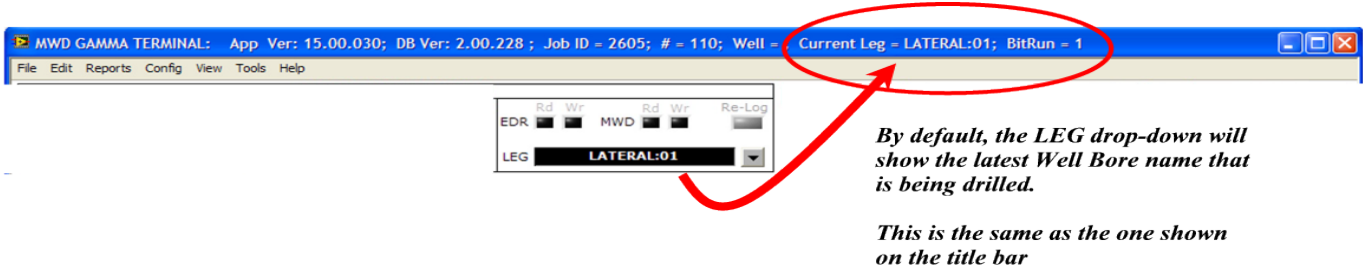

Figure 85. Shows the Leg Name Selection box, which by default always shows the active well bore that is being drilled.
- **The Current or Active Well bore Name:** The active well bore name is also the same one that shows up on the window title bar of the *Mezintel Gamma* software. An example of the window title bar showing a current Leg Name is the one in **Figure 85**. The window title bar shows that the current Leg Name is **LATERAL:01**, and the latest bit run for that leg name is **Bitrun = 1**. This also means that the Leg Name = **LATERAL:01**, is the one that is receiving logged data as long as the bit depth is on-bottom inside bitrun = 1.